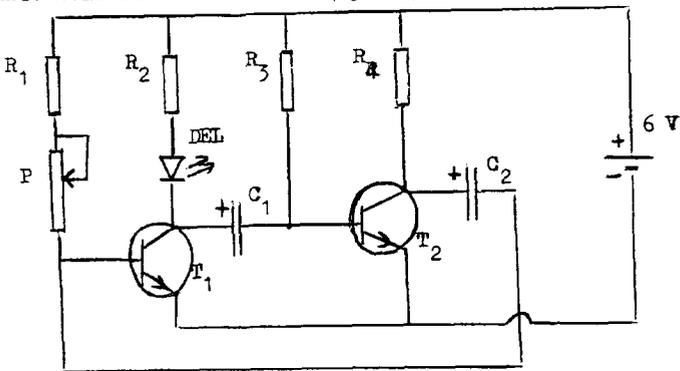

Figure 5
6. MONTAGE COMPLÉMENTAIRE (figure 5)